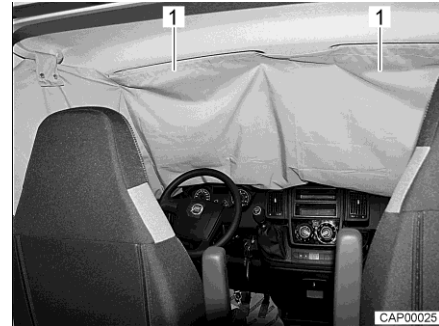

Fig. 17 Cabin black-out shade on windscreen
- Push pockets (Fig. 17,1) of cabin black-out shade over the two sun visors.